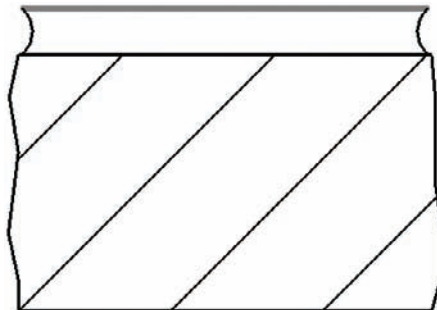

FIGURE 12.35 Draw the textured face while you are in the Edit mode for the filled region. Draw the arcs for the mortar joint using lines.
12. Draw the jagged lines in both sides, as shown in Figure 12.35.
17. Draw an arc on both sides of the brick, as shown in Figure 12.35.